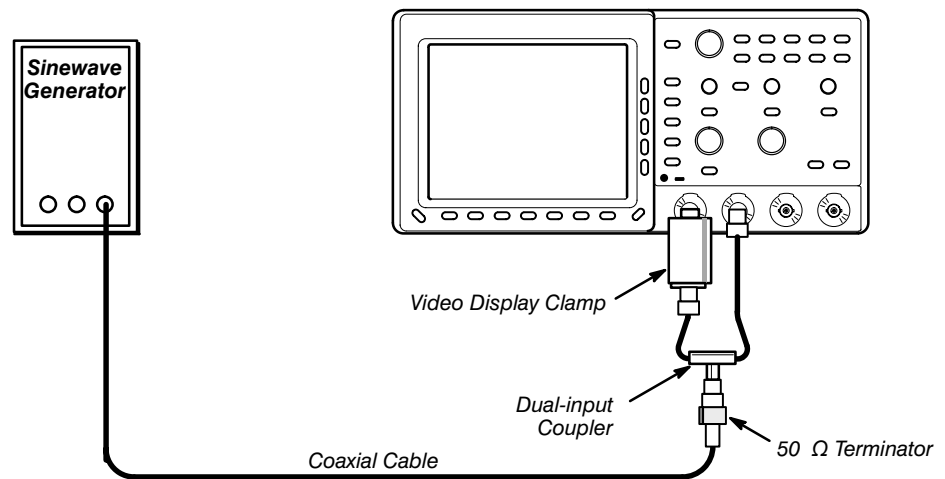

Figure 14: Bandwidth Test Setup
2. Connect the output of the sinewave generator to the test oscilloscope as shown in Figure 14.